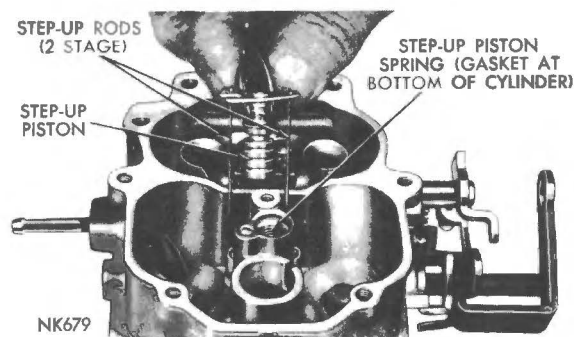

Fig. 2 Removing or Installing Step-up Piston
(9) Remove the fuel inlet needle valve, seat and gasket from the main body.
(10) Lift out the float fulcrum pin retainer, then lift out the floats and fulcrum pin.
(11) Remove the step-up piston retaining screw, and slide step-up piston and rods out of well, as shown in (Fig. 2). Now, lift out the step-up piston spring. Remove the step-up piston gasket from the bottom of the well.